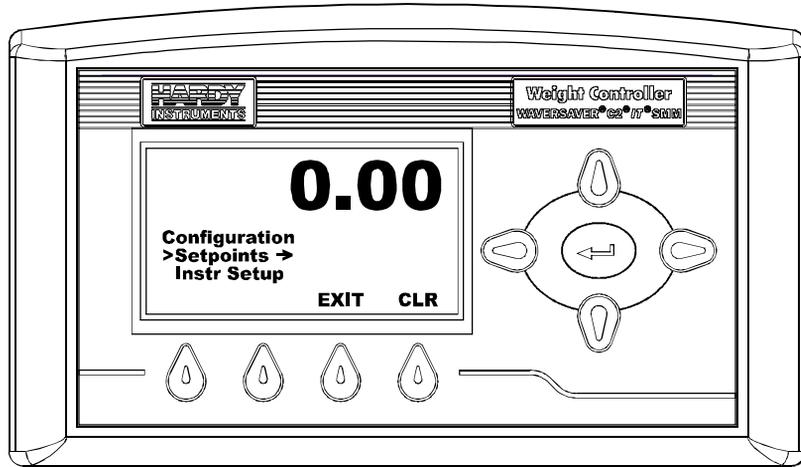

FIG. 52 CONFIGURATION MENU
- Step 1. From the Summary Display, press the Enter button. The Configuration Menu appears with the cursor in front of Setpoints. (See Fig. 52)